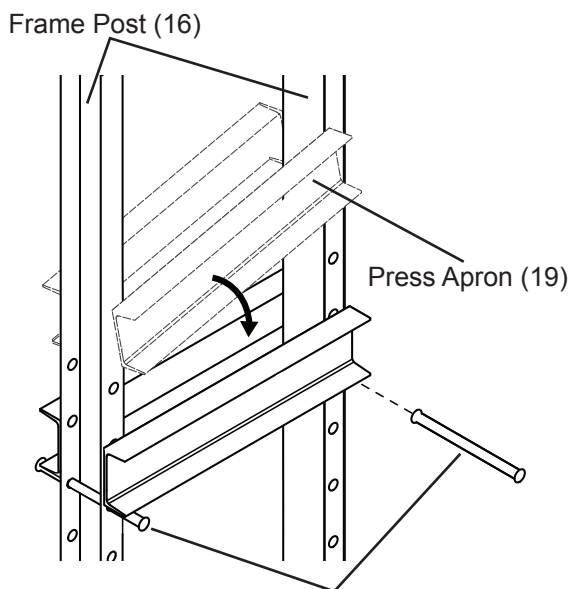

Figure 4 Support Pins (10)
- Slide the Support Pins (10) into the holes in the Frame Posts (16). Angle the Press Apron (19) so the rails of the Press Apron straddle the Frame Posts, then lower into place down the Frame Posts so the Press Apron rests on the Support Pins. See Figure 4.